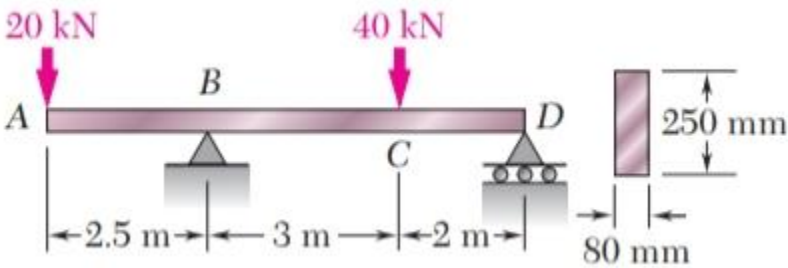

Figure 6.3
- b. For the timber beam and loading shown in Figure 6.3, draw the shear and bending-moment diagrams and determine the maximum normal stress due to bending **(15 marks)**